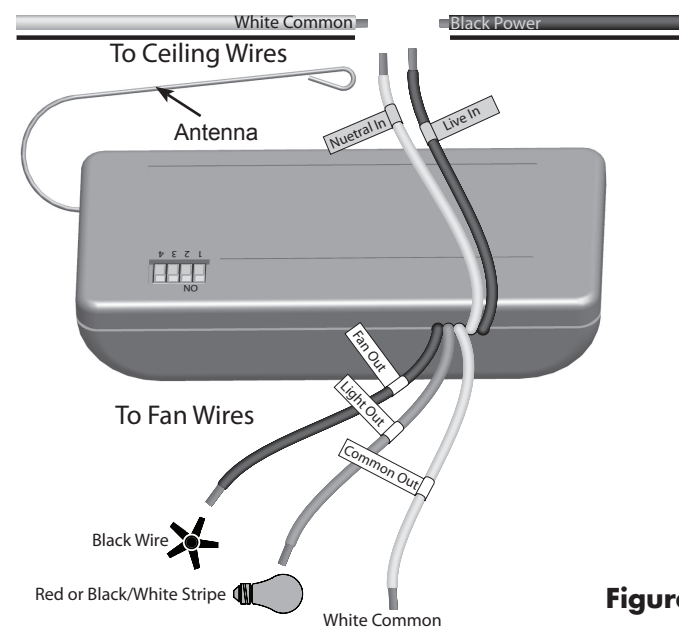
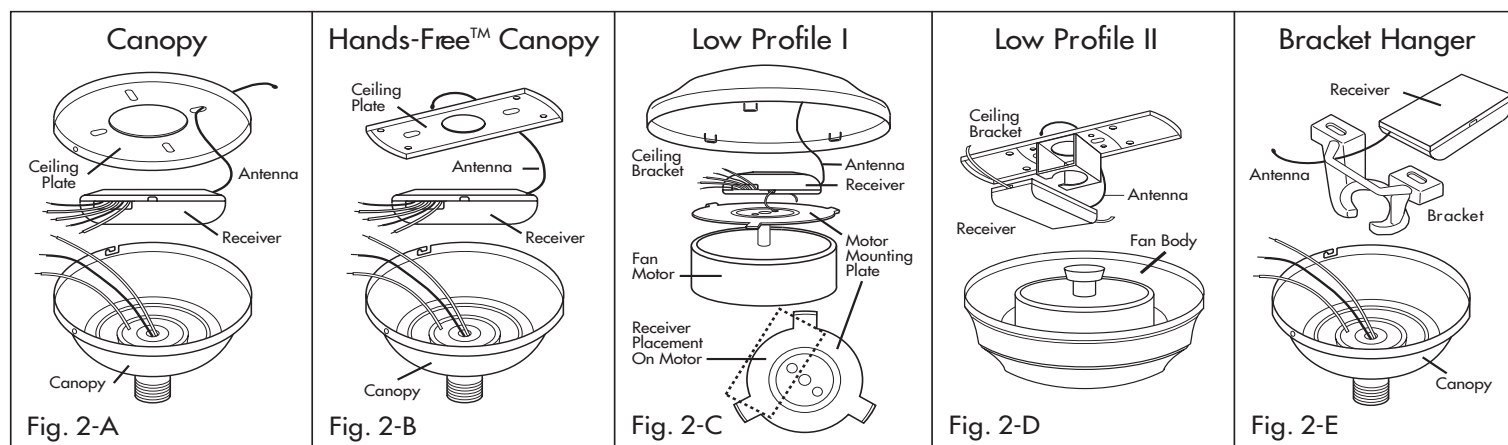

Figure 3.
Figure 2
**Canopy Hanger (Fig. 2-A):** Place receiver in canopy. Connect wiring as shown in Figure 3. Extend antenna through one of the ceiling plate openings (approximately 3-6").
**Hunter Hands-Free™ Canopy (Fig. 2-B):** Connect wiring as shown in Figure 3. Place receiver inside mounting bracket. (On some Wisper Wind™ models, the receiver must rest across the bottom of the mounting bracket.) Extend antenna above the ceiling mounting bracket (approximately 3-6").
**Low Profile Style I (Fig. 2-C):** Attach the receiver to the motor mounting plate with 12" cable ties (not included). Cut off any extra cable tie. Connect wiring as shown in Figure 3. Extend antenna through one of the ceiling plate openings (approximately 3-6").
**Low Profile Style II (Fig. 2-D):** Attach the receiver to the ceiling bracket with 12" cable ties (not included). Trim off the excess cable tie length. Connect wiring as shown in Figure 3. Extend antenna above the ceiling mounting bracket (approximately 3-6").
**Bracket Hanger (Fig. 2-E):** Starting with the antenna wire, slide receiver inside mounting bracket. If a ground wire mounting screw prevents the receiver from sliding into the bracket, move ground wire and screw to
an unused hole at the top of the bracket or secure with a canopy mounting screw. The bracket must remain properly grounded. Connect wiring as shown in Figure 3. Extend antenna above the receiver (approximately 3-6").
**Cable Tie Routing for Low Profile Fans (Figs. 2-C, 2-D):** Insert cable tie through openings as shown. DO NOT insert the cable tie through the inside of the receiver. The cable tie can be placed across the length or width of the receiver to best match your fan installation type.
3. Determine your ceiling fan mounting type (Figure 2). Most installations will be one of these five types: Canopy Hanger, Hunter Hands-Free™ Canopy, Low Profile Styles I or II, or Bracket Hanger.
4. Install the ceiling fan according to its instructions, up to the point of making the electrical connections. Connect receiver to ceiling fan according to the mounting type as instructed in Figure 2.
5. If the fan is already installed, reverse the installation procedure to the point of disconnecting the fan wiring. Connect receiver to ceiling fan according to the mounting type as instructed in Figure 2.
6. Use the 2 large wire nuts supplied to connect the receiver and house wiring, then use the 3 small wire connectors supplied to connect the receiver and ceiling fan wiring. Refer to the Wiring Diagram in Figure 3.
7. Be sure the antenna is positioned securely, so it does not interfere with the ceiling fan motor. Refer to Figure 2. Do not modify or damage the antenna wire, as control performance may be reduced. After securing the receiver, antenna, and wiring, finish hanging the ceiling fan according to its instructions.
**Suspensión De Campana (Fig. 2-A):** Coloque el receptor en la campana. Conecte los alambres como se muestra en la Figura 3. Extienda la antena a través de una de las aberturas de la placa de techo (aproximadamente entre 3" y 6").
**Campana Hunter Hands-Free™ (Fig. 2-B):** Conecte los alambres como se muestra en la Figura 3. Coloque el receptor dentro de un soporte de montaje. Extienda la antena por encima del soporte de montaje de techo (aproximadamente entre 3" y 6").
**Perfil Bajo Estilo I (Fig. 2-C):** Conecte el receptor a la placa de montaje del motor con bridas de 12" (no incluidos). Corte toda brida excedente. Conecte los alambres como se muestra en la Figura 3. Extienda la antena a través de una de las aberturas de la placa de techo (aproximadamente entre 3" y 6").
**Perfil Bajo Estilo II (Fig. 2-D):** Conecte el receptor al soporte de techo con bridas de 12" (no incluidos). Recorte el exceso de longitud de bridas. Conecte los alambres como se muestra en la Figura 3. Extienda la antena por encima del soporte de montaje de techo (aproximadamente entre 3" y 6").
**Suspensión De Soporte (Fig. 2-E):** Comenzando con el alambre de la antena, deslice el receptor dentro del soporte de montaje. Si el tornillo de montaje de un alambre de tierra evita que el receptor se deslice en el soporte, mueva el alambre de tierra y atorníllelo en un agujero no utilizado en la parte superior del soporte o asegúrelo con un tornillo de montaje de campana. El soporte debe permanecer puesto a tierra adecuadamente. Conecte los alambres como se muestra en la Figura 3. Extienda la antena encima del receptor (aproximadamente entre 5" y 8").
**Colocación De Sujetacables Para Ventiladores De Perfil Bajo (Fig. 2-C, 2-D):** Introduzca el sujetacables a través de las aberturas, tal como se